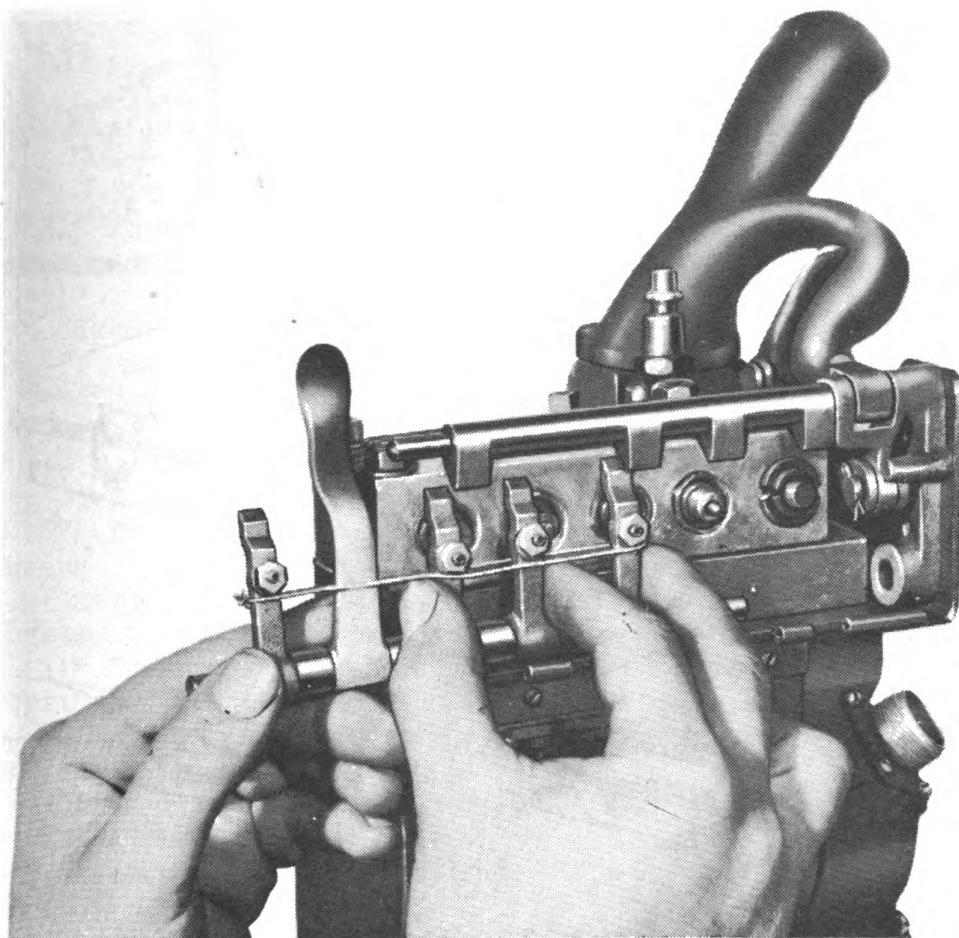

Fig. 105. Removing control levers, spacers, and shaft.
--Remove control levers, spacers, and shaft upon which they are mounted (fig. 105).
(1) Prepare gun for test firing, but do not open fuel container valve or the air cylinder needle valve.
(2) Remove dust cover and flame shield.